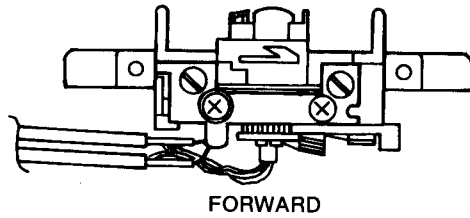

Fig. 4
5. The arrow “” indicates the direction of tape travel. (See Fig. 4~5.)